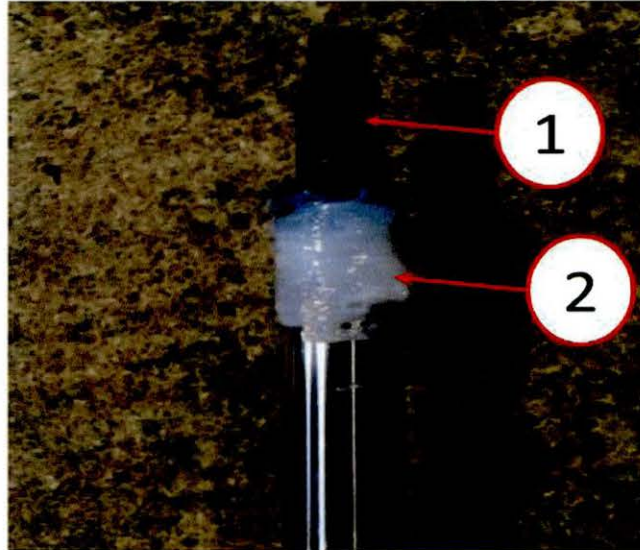

Fig. 4 Grease Upper Shock Shaft At Mount
10. Apply Nye Grease, P/N 05019061AA (2) to the upper end of the shock shaft (1) just below where it connects to the upper mount (Fig. 4).